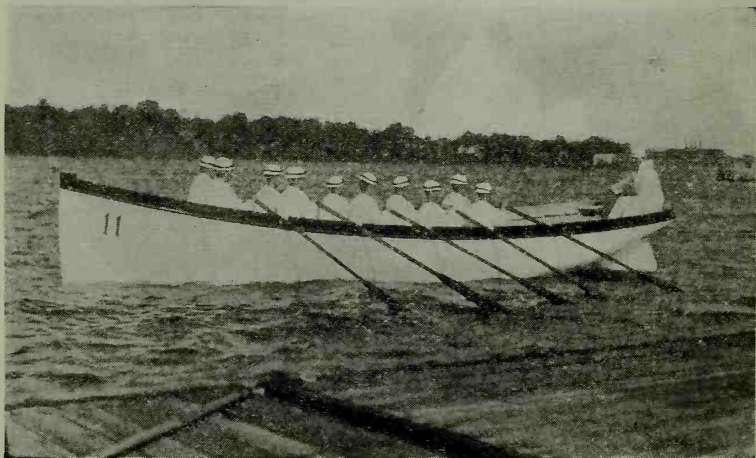

FIG. 11-3—Position No. 4, end of stroke.
**Position No. 4.**—This is the *End of the stroke*. (Fig. 11-3.) This is made by giving a final pull with the arms. The blade is pulled out of the water at the finish of the pull.